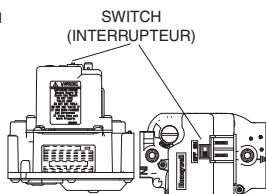

Figure 1
6. Move the gas control switch to the "OFF" position. (See Figure 1)
7. Wait five (5) minutes to clear out any gas. Then smell for gas, including near the floor. If you smell gas, STOP! Follow "B" in above information. If you don't smell gas, go to the next step.
8. Move the gas control switch to the "ON" position. (See Figure 1)
4. Move the gas control switch to the "OFF" position. Do not use force. (See Figure 1)
6. Réglez l'interrupteur de commande du gaz à la position "OFF". (voir Figure 1).
7. Attendre cinq (5) minutes pour s'assurer de la dissipation du gaz.
8. Réglez l'interrupteur de commande du gaz à la position "ON". (voir Figure 1).